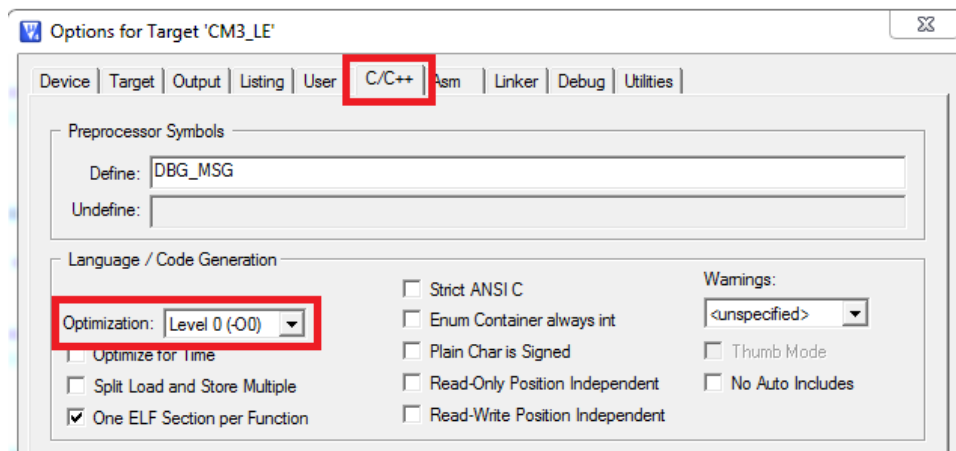

Figure 1.18: RTX Library Project Optimization Level Setting
5. Click the Target Option button and activate the C/C++ tab. Set the optimization to Level 0 (`-O0`) in the Language / Code Generation section (see Figure 1.18). Turning off the compiler optimization will allow the debugger to provide useful debugging information during the development.